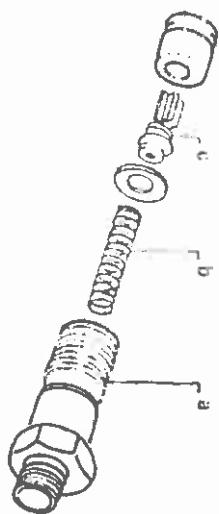

Fig. D 5
- Dévisser (fig. D 5) le raccord support de soupape de pression a et enlever le ressort b et la soupape c.
- Unscrew (fig. D 5) the pressure valve support connector a) and remove the spring b) and valve c).